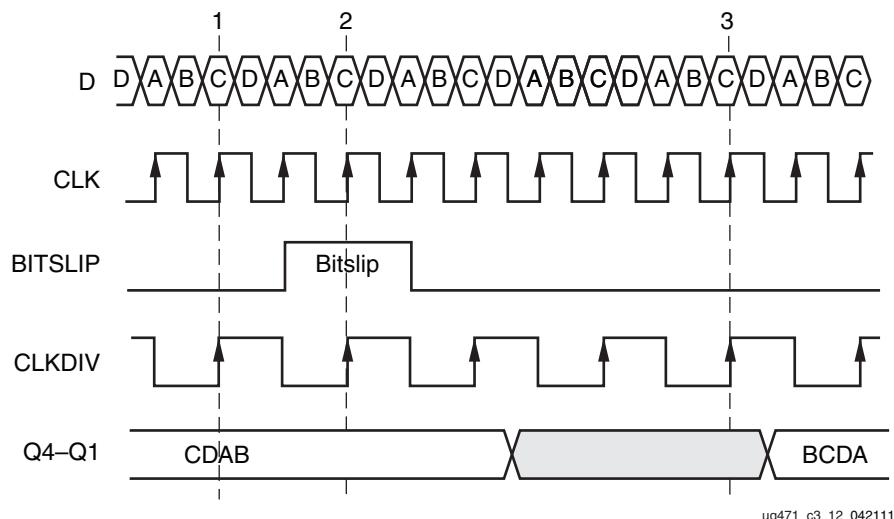

Figure 3-12: DDR Bitslip Functional Diagram
When the ISERDESE2 interface type is MEMORY, the latency through the OCLK stage is one CLKDIV cycle. However, the total latency through the ISERDESE2 depends on the phase relationship between the CLK and the OCLK clock inputs. When the ISERDESE2 interface type is NETWORKING, the latency is two CLKDIV cycles. See Figure 3-12, page 156 for a visualization of latency in networking mode. The extra CLKDIV cycle of latency in networking mode (compared to memory mode) is due to the Bitslip submodule.
This section discusses the timing models associated with the Bitslip controller in a 1:4 DDR configuration. Data (D) is a repeating, 4-bit training pattern ABCD. ABCD could appear at the parallel outputs Q1–Q4 of the ISERDESE2 in four possible ways: ABCD, BCDA, CDAB, and DABC. Only one of these four alignments of the parallel word makes sense to the user's downstream logic that reads the data from the Q1–Q4 outputs of the ISERDESE2. In this case, ABCD is assumed to be the word alignment that makes sense. Asserting Bitslip allows the user to see all possible configurations of the input data and then choose the required alignment (ABCD). Figure 3-12 shows the timing of a Bitslip operation and the corresponding re-alignments of the ISERDESE2 parallel outputs Q1–Q4.